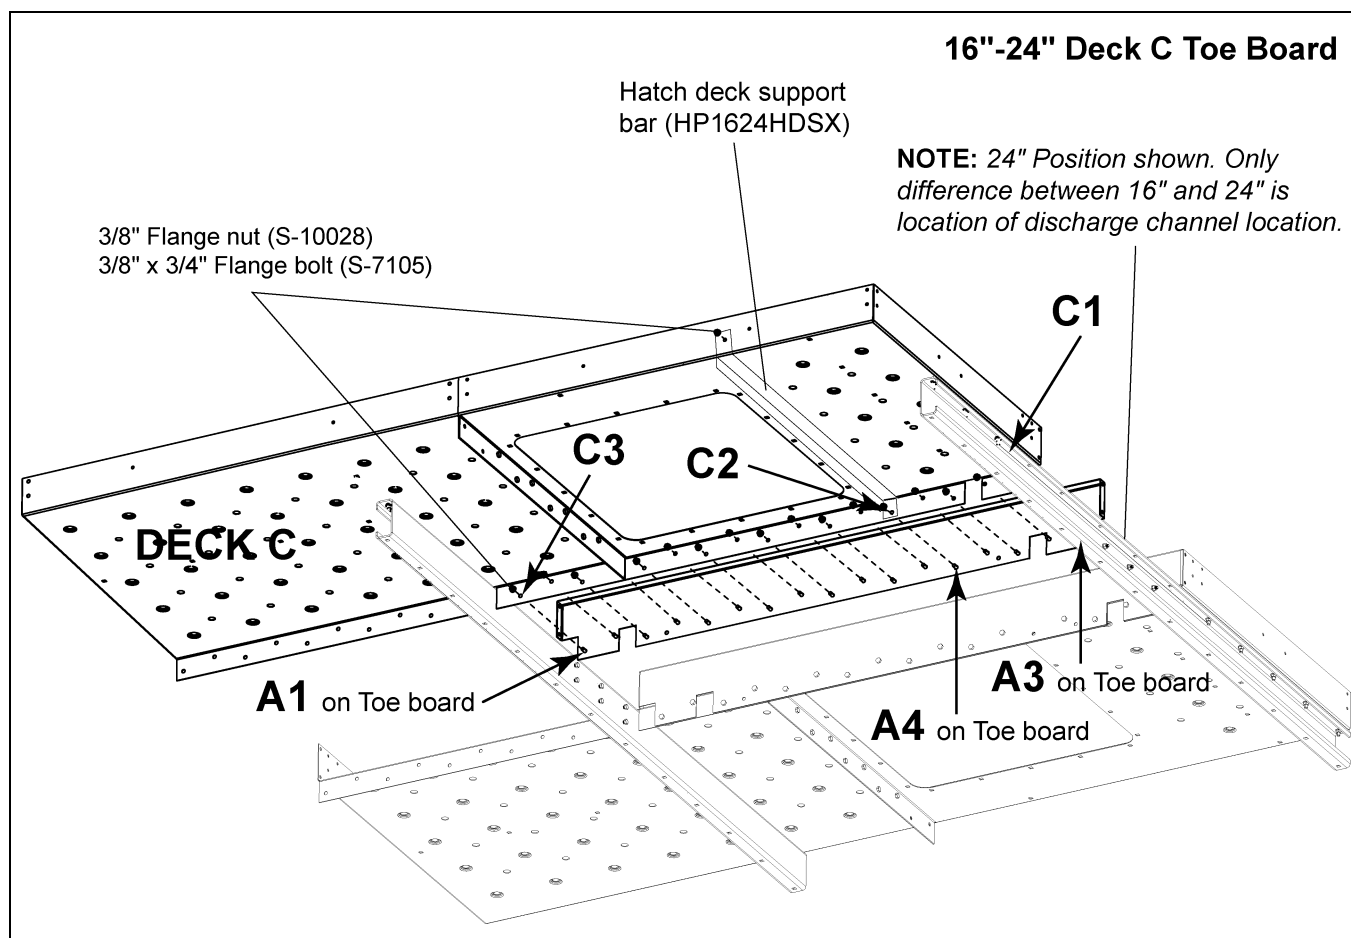

Figure 8E 24" Deck C Toe Board
1. Locate pre-assembled Deck C, consisting of two (2) planks and connecting tabs.
4. Using a punch as needed for alignment, connect Deck C to side toe board using 3/8" x 1" carriage bolts (S-3585) with flange nuts (S-10028) and torque to standard specifications. (See Figure 8E.)